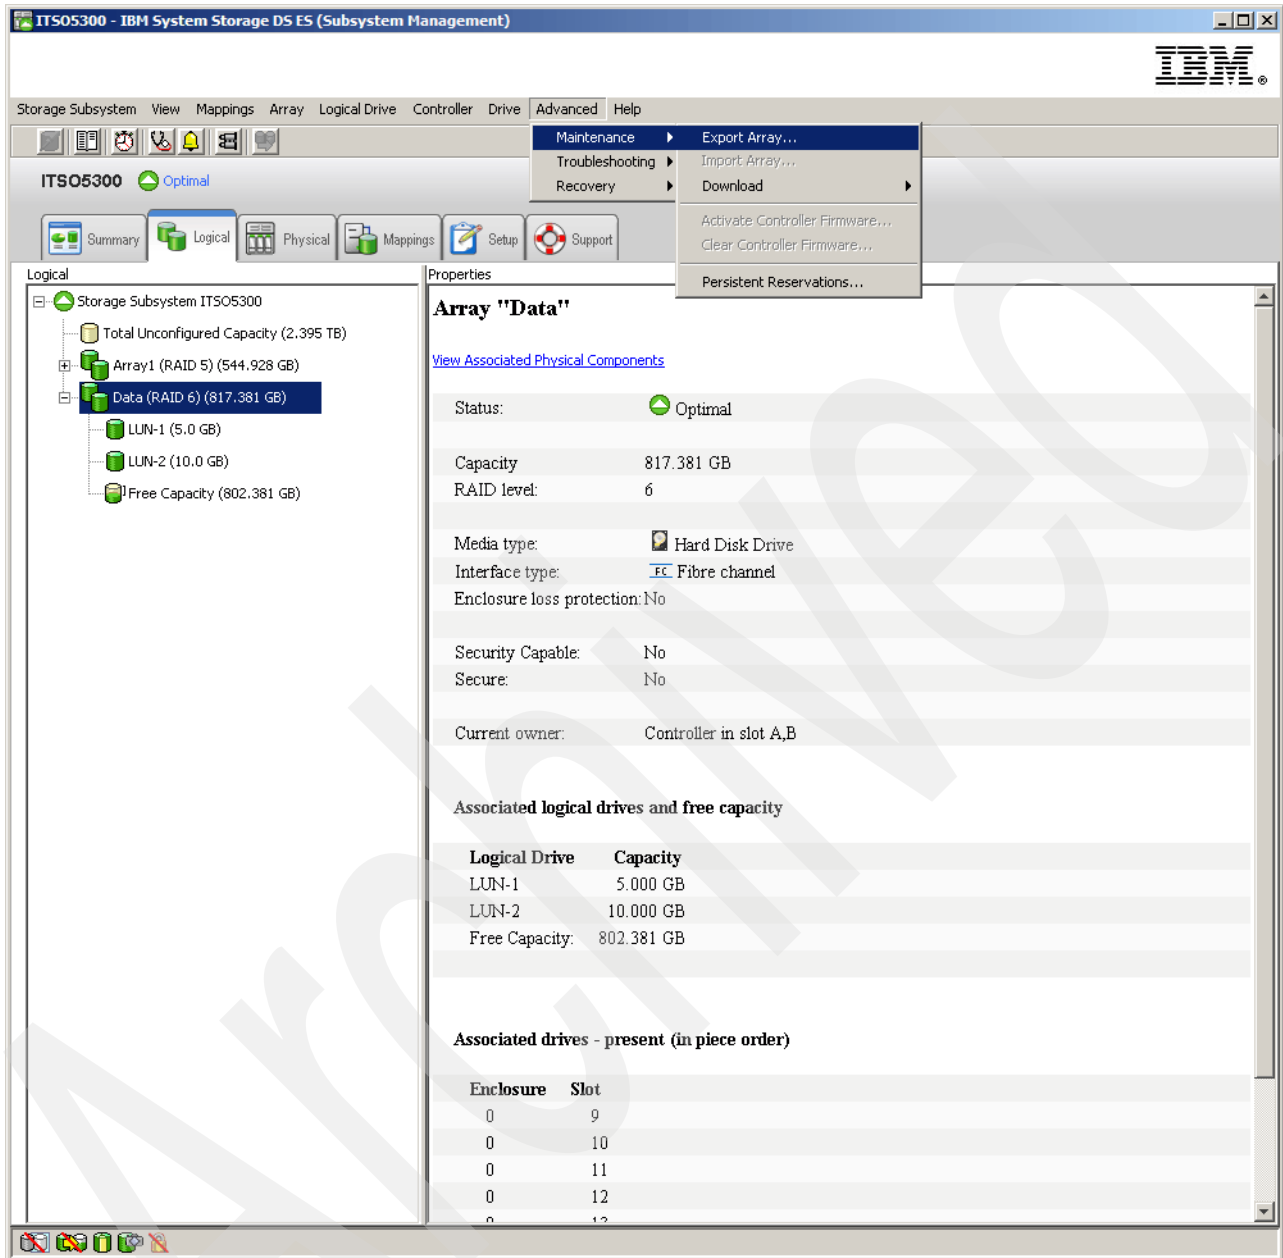

Figure 7-40 Exporting an array
2. Select **Advanced** → **Maintenance** → **Export array** from the Subsystem Management window, as shown in Figure 7-40.